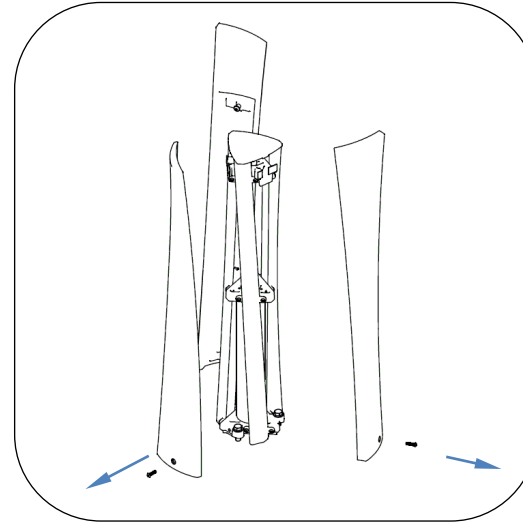

FIG. 4 – REMOVE OUTER PANELS
11. Using the pin-in-hex key provided, remove the three outer panels from the bollard. See Fig. 4. Once the screw is removed, gently lift up and out to remove the panel. Set aside on a protective surface.